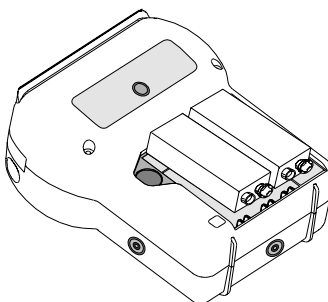

Figure 7-1 *Correct Battery Orientation*
3. Place two new 9-volt batteries into the compartment, matching the battery terminals with the pump's terminal guides as shown in Figure 7-1.